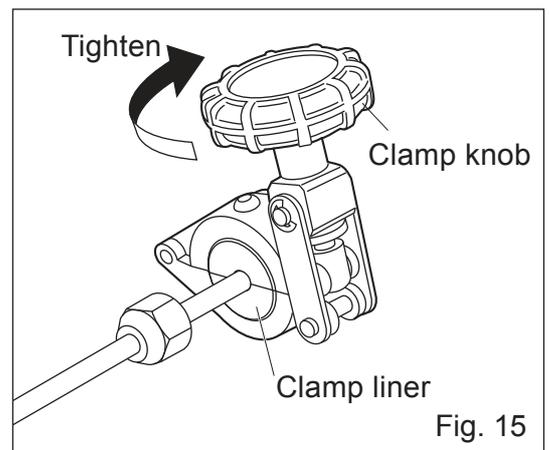

Fig. 15
*Turn the clamp knob until the clamps are closed firmly. (Fig. 15)